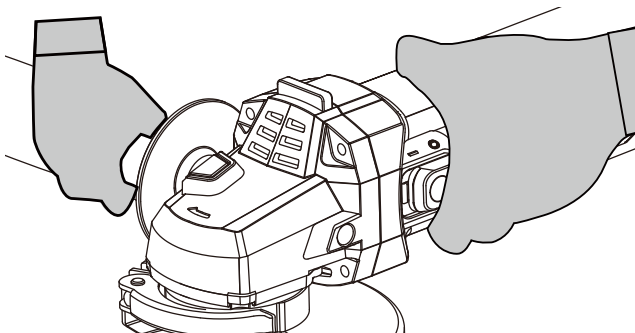

Figure 9
1. HAND GRIP AREAS (SEE FIG. 9)